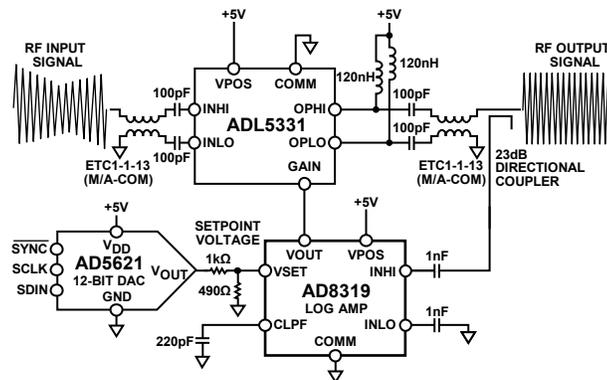
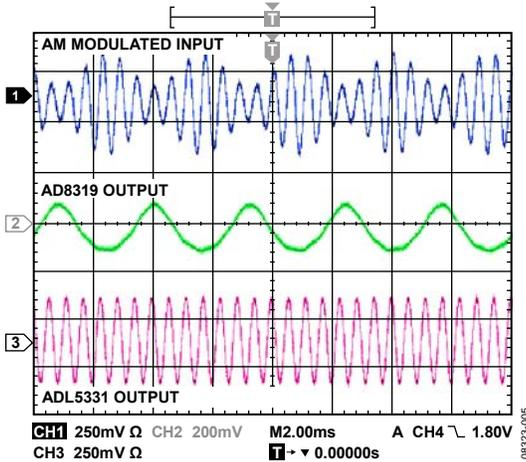

Figure 1. **ADL5331** Operating in an Automatic Gain Control Loop in Combination with the **AD8319** and **AD5621** (Simplified Schematic)
Figure 5. Oscilloscope Showing an AM Modulated Input Signal
Overall performance of a transmitter, wired or wireless, is a strong function of the output power of the amplifier. If the signal is weak, bit error rate (BER) or modulation error rate (MER) degrades due to low signal-to-noise ratio (SNR). If the signal is too strong, distortion causes the same issues. The circuit shown in Figure 1 uses the **ADL5331** variable gain amplifier (VGA), the **AD8319** power detector, and the **AD5621** low power *nano*DAC® to generate output power control accurate to 12 bits.
The **ADL5331** VGA provides accurate gain control. However, an automatic gain control (AGC) achieves a more precise regulation of output power. Figure 1 shows the **ADL5331** operating in an AGC loop. The addition of the **AD8319** logarithmic amplifier allows the AGC to have improved temperature stability over a wide output power control range.
The basic connections for operating the **ADL5331** in an AGC loop with the **AD8319** are shown in Figure 1. The **AD8319** is a 1 MHz to 10 GHz precision demodulating logarithmic amplifier. It offers a dynamic detection range of 40 dB with ± 1 dB temperature stability. The V_{OUT} pin of the **AD8319** controls the gain control pin, GAIN, of the **ADL5331**. In this application, when the **AD8319** is in controller mode, the V_{OUT} pin of the **AD8319** can drive the **ADL5331** GAIN pin over its full linear range of 0 V to 1.4 V. Under low power RF input conditions, outside the linear control range of the loop, the V_{OUT} pin of the **AD8319** can be driven to its maximum value, close to the value of the positive input voltage, V_{POS} . To avoid overdrive recovery issues with the **ADL5331** GAIN input, place a voltage divider between V_{OUT} on the **AD8319** and GAIN on the **ADL5331**. This can have a slight effect on the overall speed of the loop, for instance, when the input power to the **ADL5331** is stepped.
For the AGC loop to remain in equilibrium, the AD8319 must track the envelope of the ADL5331 output signal and provide the necessary voltage levels to the gain control input of the ADL5331. Figure 5 shows an oscilloscope measurement of the AGC loop in Figure 1. A 100 MHz sine wave with 50% amplitude modulation (AM) is applied to the ADL5331. The output signal from the ADL5331 is a constant envelope sine wave with amplitude corresponding to a setpoint voltage at the AD8319 of 1.5 V. The gain control response of the AD8319 to the changing input envelope is also shown in Figure 5.